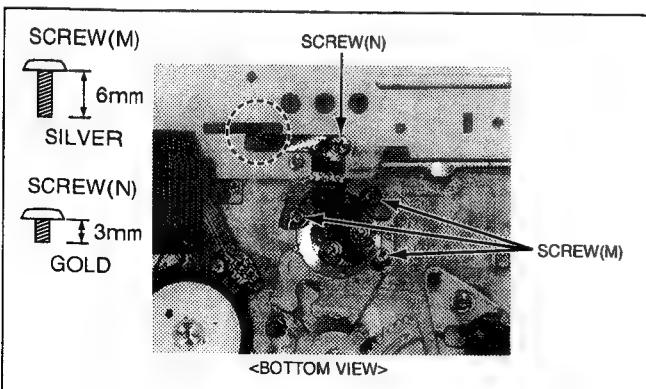

Fig. M-18
- Fig. M-18 Unscrew 4 screws (M) and (N). Then remove the Cylinder Unit carefully.